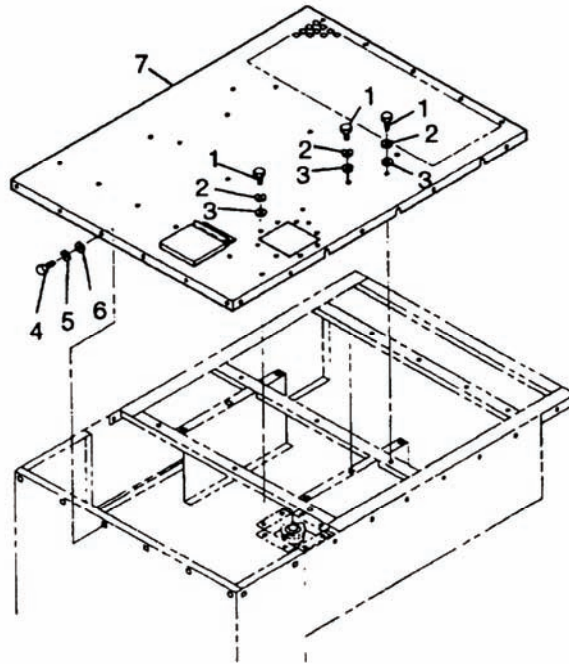

Figure 3-4. Generator Set Top Housing Panel.
- f. Remove bolts (1 and 4, Figure 3-4), lock washers (2 and 5), washers (3 and 6), and top housing panel (7) from generator set. Discard lock washers (2 and 5).